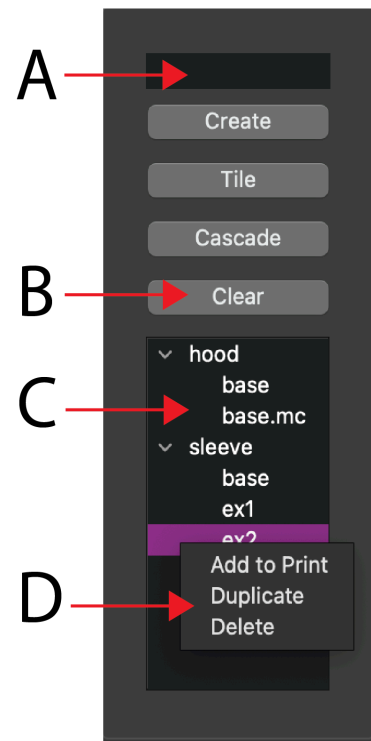

Figure 2.
The Component Menu is used to control Component Windows within the Component Area. To create a new component, select the text box at the top of the Component Menu (Figure 2 A), and click the “Create” button directly below it, or press “Return/Enter”.
This will add a new component dropdown to the **Component Tree** (Figure 2 C). The component dropdown shows all of the layers within a component. A default layer called “base” will automatically be created with a new component. Components can have multiple layers, for drafting and revising patterns. The component names shown in the component tree are unindented, and the layers are indented.
2. Type the name of your new project in the textbox at the top left of the interface (Figure 2 A) and click "Create," or press enter. A new project dropdown will be created in the project tree below, and an empty project window will appear.
6. Add the layer to the Print Window by right clicking it in the Project Tree (Figure 2 D) and selecting "Add to Print." The layer will be added to the Print Window, and its information will be displayed in the Print Menu, including project and layer name, the unit of measurement, and the machining tool (laser or airbrush).